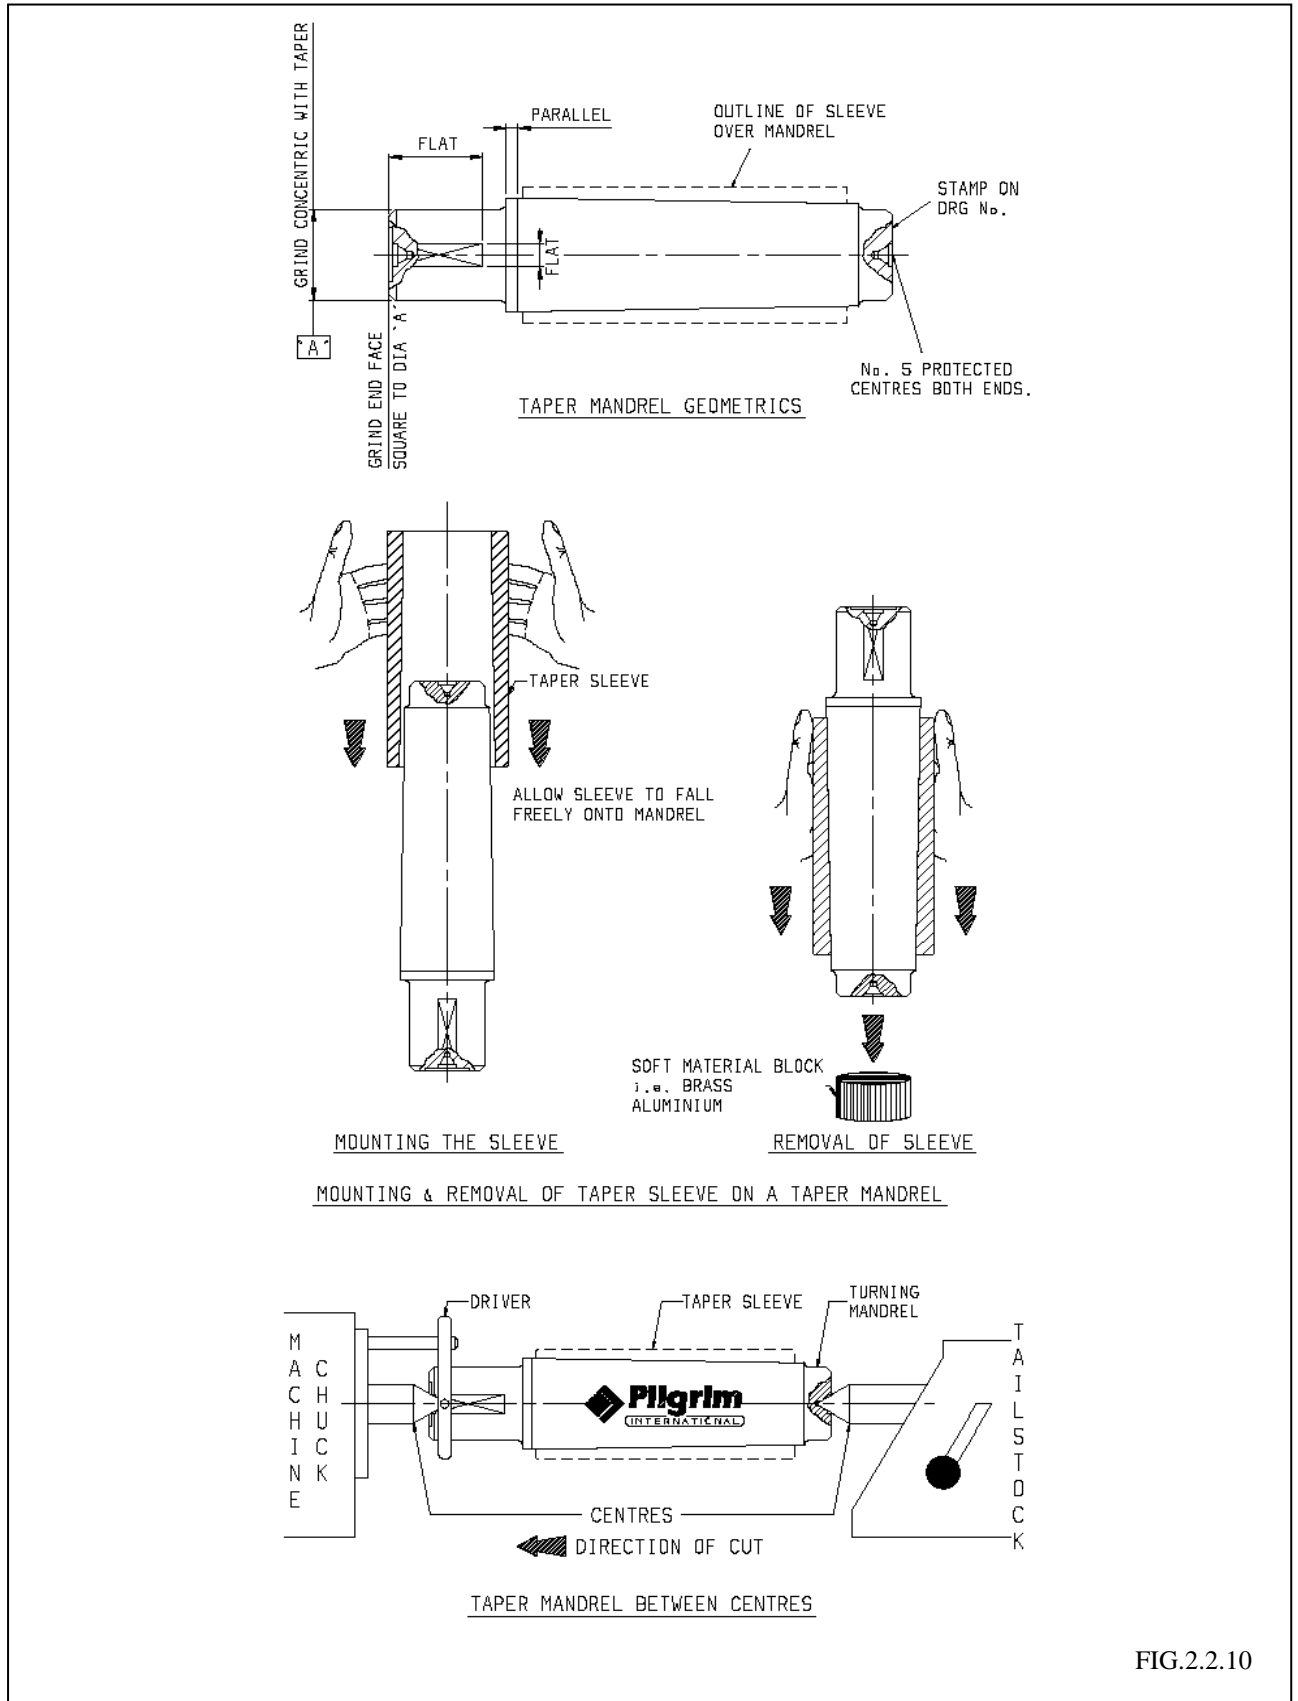

FIG.2.2.10
- 2.2.10 Where the sleeves are supplied oversize for machining on-site to suit measured hole sizes recorded in 2.2.1, the outside diameter has to be machined by grinding or fine turning. The sleeves should be machined to a diameter equal to the measured hole size **minus** the clearance allowance stated in the Data Sheet. The sleeve should be circular, straight and parallel within the tolerance stated in the Table in Section 2.2.2. The surface finish must not exceed 1.6 micrometers (63 microinches). To prevent distortion of the sleeve during machining due to its thin wall, the sleeve should be mounted on the mandrel, having a matching taper, supplied with the sleeves (See Fig. 2.2.10)
3.1.14. Assemble the Sleeve onto the Bolt. Holding the Bolt vertically with the small end of the taper uppermost. Hold the Sleeve with its end face level with the top of the tapered section of the Bolt and allow the Sleeve to fall, under its own weight, onto the Bolt. Check that the Sleeve is locked onto the Bolt by applying hand force only to the Sleeve. (See Fig. 2.2.10)